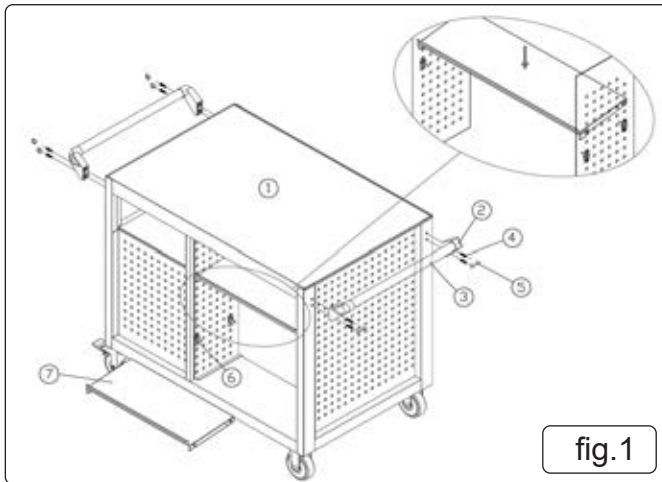

fig.1
- 4.2. Slot the hooks into place using the perforations on the workstation as shown in fig.1.